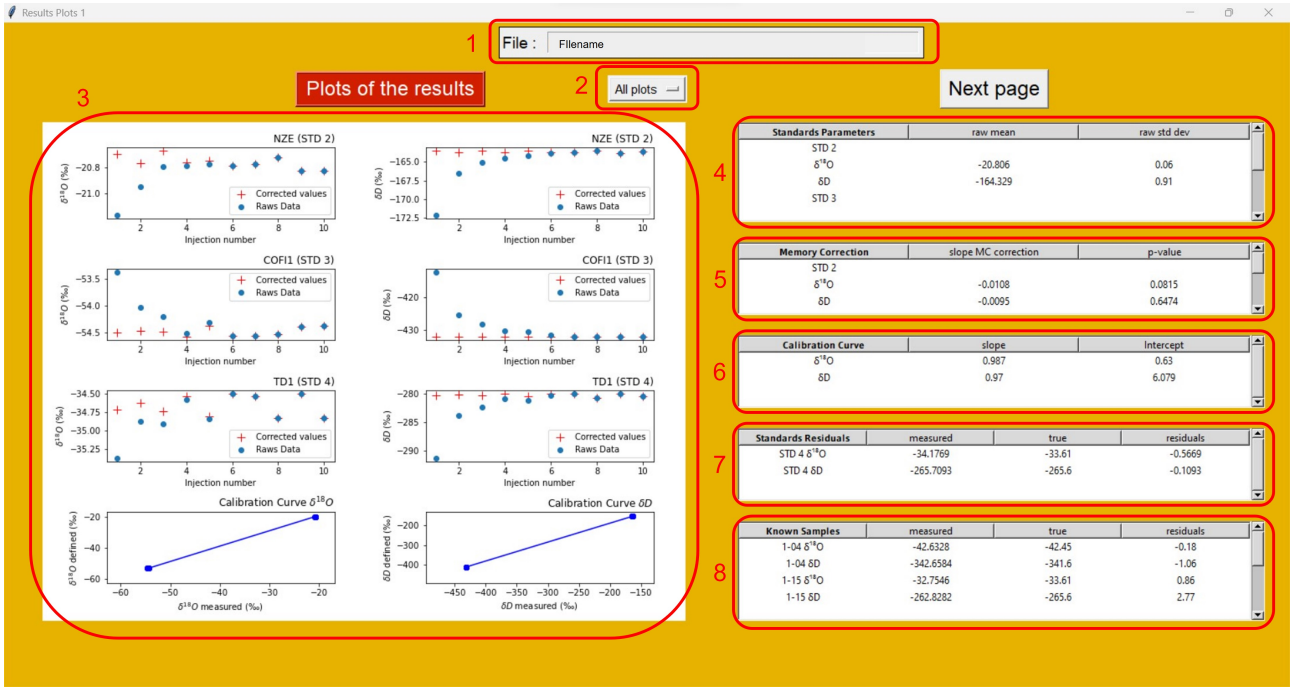

Figure 3: Screenshot of the first page of results of ALWIC-tool
When the processing button is pressed and all the calculation made a new window appears. It looks like fig. 3. The parameters of the correction are shown on this page.
- 2 : When this is set to all plots the page looks like the figure 3. But if you choose another plot the tables on the right will be overwritten to put a zoom on the plot you selected. To view again the tables, select all plots.